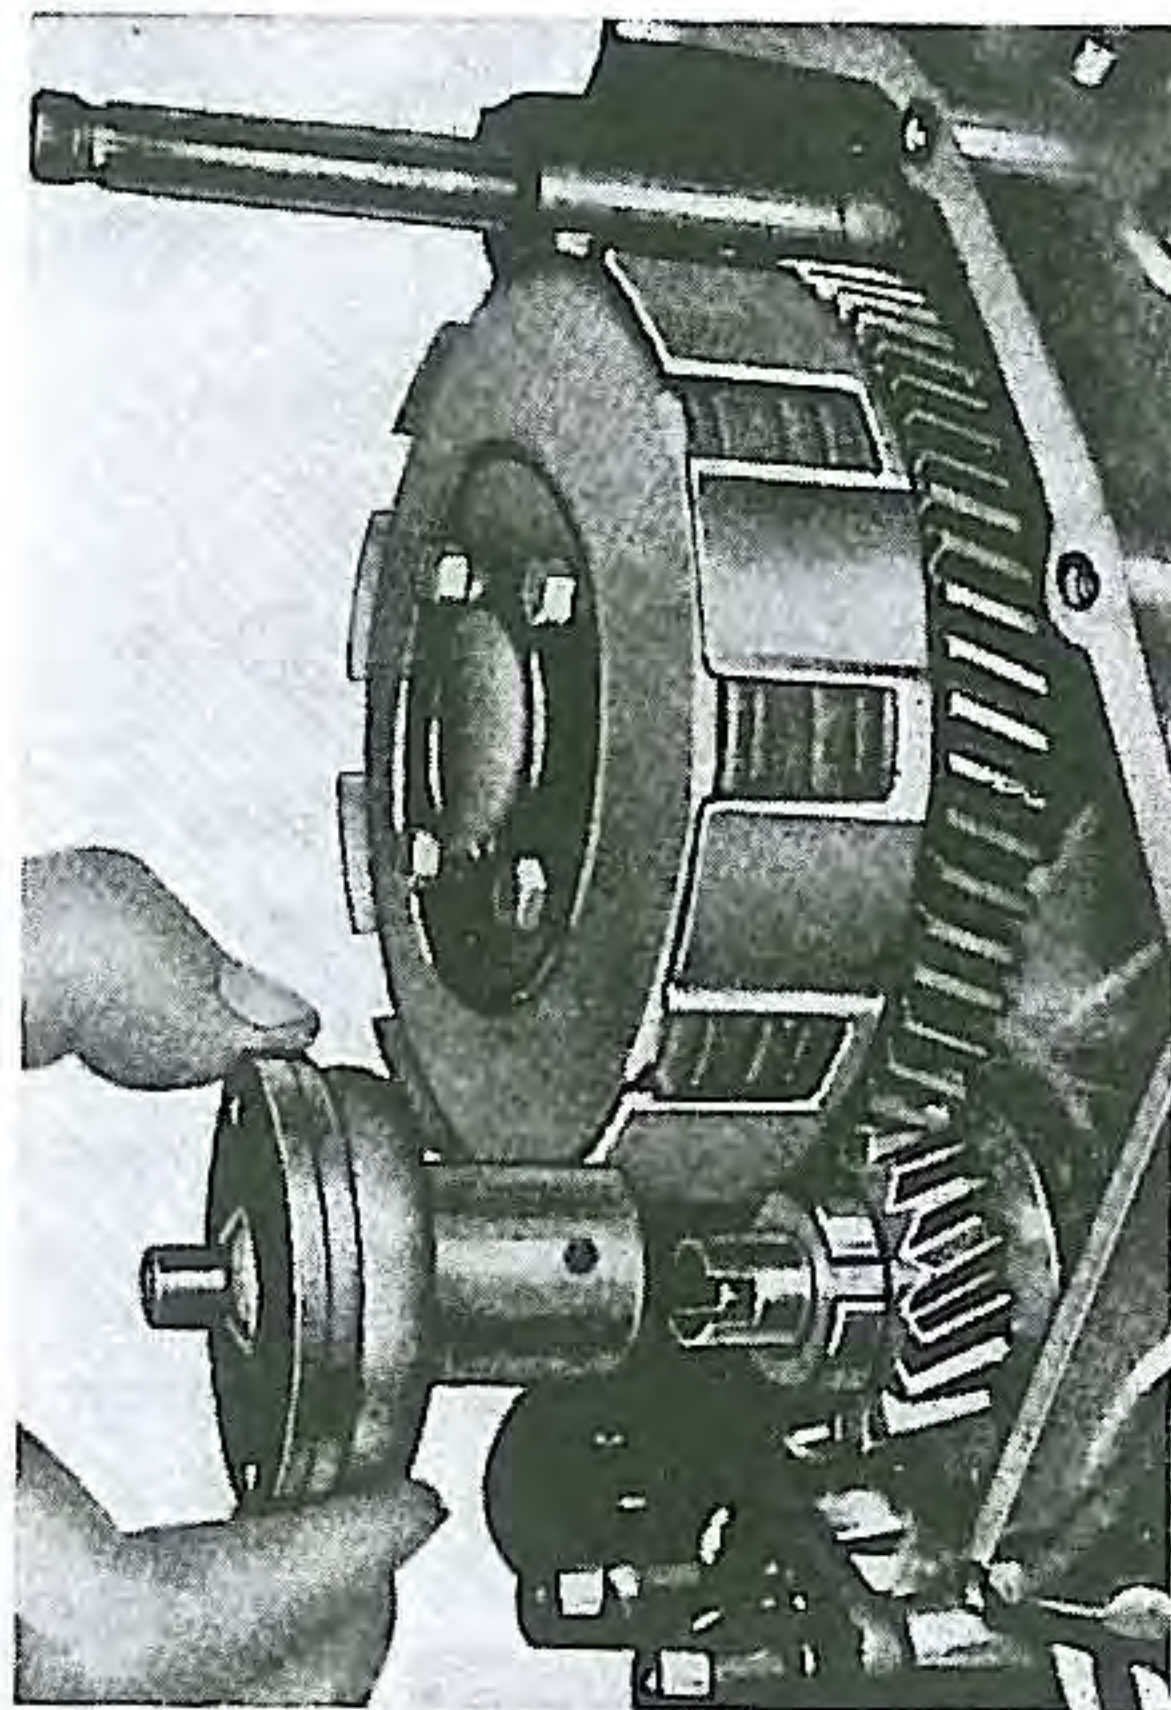

Fig 103. Installing oil filter
- (1) Oil pump and oil filter
- 1-6 After the completion of the clutch assembly insert the oil filter body so that the pin across the bore of the filter meets the crank shaft slit. (Fig. 103)